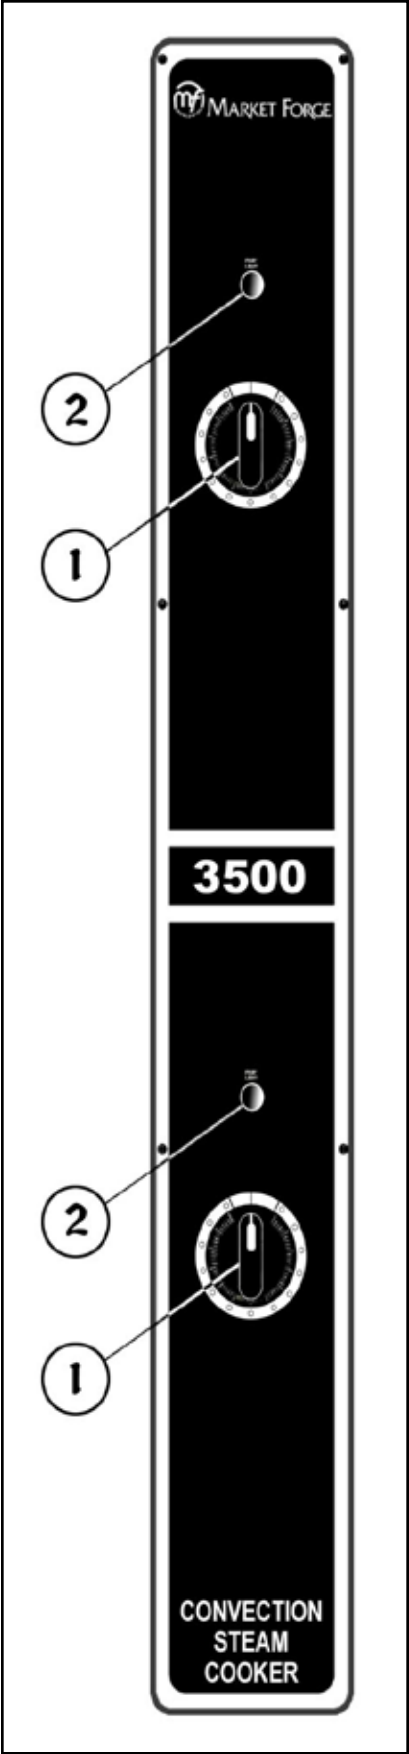

Fig. 1 Control Panel
Before making this check-out, the operator must be thoroughly familiar with the operating procedures on page 3 and with the function of each control described in Table 1 on page 5. Reference Figure 1, also on page 5 for identification of controls required in the following procedures.
2. Cooker timers for both compartments (Figure 1, page 5) are in the OFF position.
The controls and indicators required to operate the Pressureless Steam Cooker are listed in Table 1 on page 5, together with a short functional description of each. Figure 1 on page 5 shows the physical location of each control and indicator.
**CONTROLS & INDICATORS (Refer to Fig. 1)**